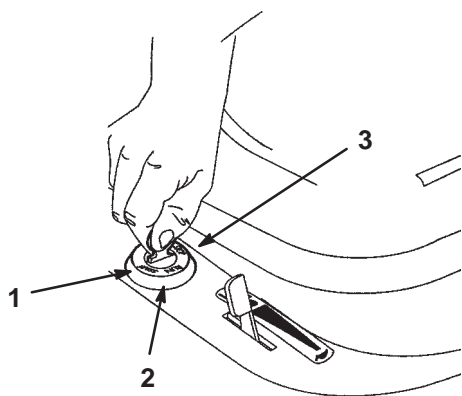

Figure 9
6. Turn the ignition key clockwise and hold it in the Start position (Fig. 9). When the engine starts, release the key.
2. Turn the ignition key to Stop (Fig. 9).